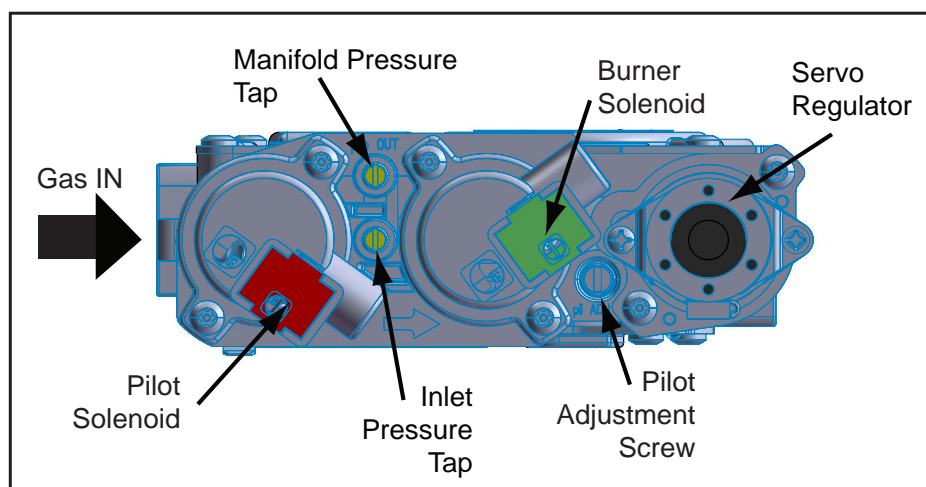

Figure 38: Valve Details.
The pressure taps are located on the front side of the valve (see Figure 38).
1. The adjustment screw can be reached through the front of the unit using a 10 inch long blade head screw driver (see Figure 38 for location on valve).